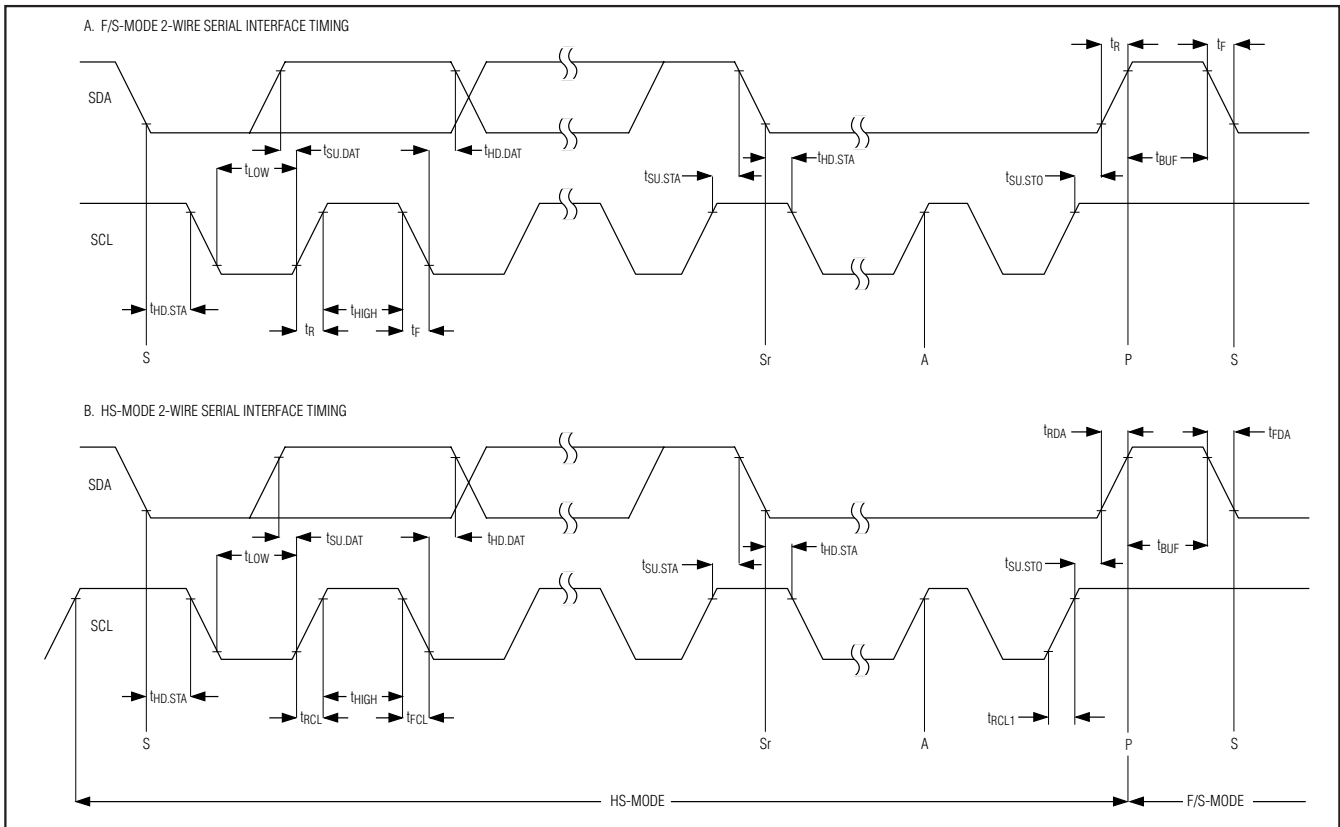

Figure 1. 2-Wire Serial Interface Timing
TIMING CHARACTERISTICS (Figure 1)
TIMING CHARACTERISTICS (Figure 1) (continued)
- Note 10:** A master device must provide a data hold time for SDA (referred to V_{IL} of SCL) in order to bridge the undefined region of SCL's falling edge (see Figure 1).
up to 22.2ksps. The MAX1136–MAX1139 must operate in high-speed mode (HS-mode) to achieve conversion rates up to 94.4ksps. Figure 1 shows the bus timing for the MAX1136–MAX1139's 2-wire interface.